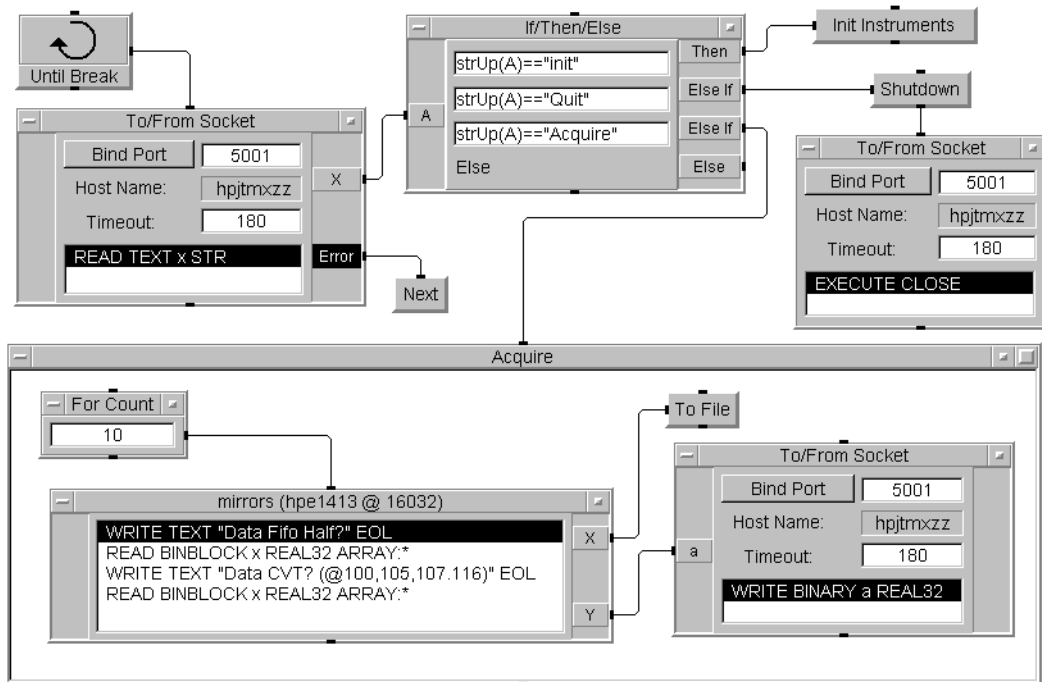

Figure 4-24. To/From Socket Binding Port for Server Process
- To/From Socket Object Example** Figure 4-24 shows a VEE program that uses the `To/From Socket` object to provide a separate server process for data acquisition using the HP E1413B. This server can honor client requests to initialize instruments, acquire and write data to disk, and shutdown and quit. During the acquisition